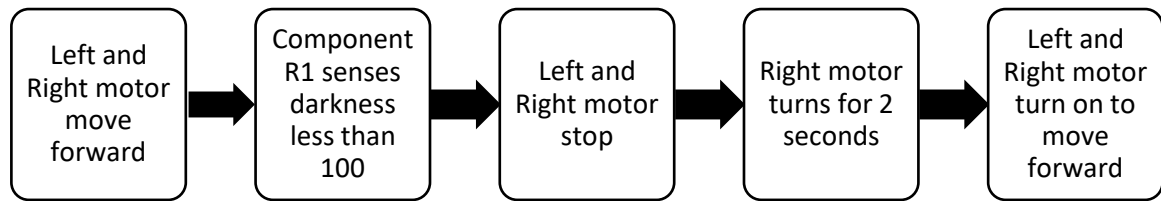
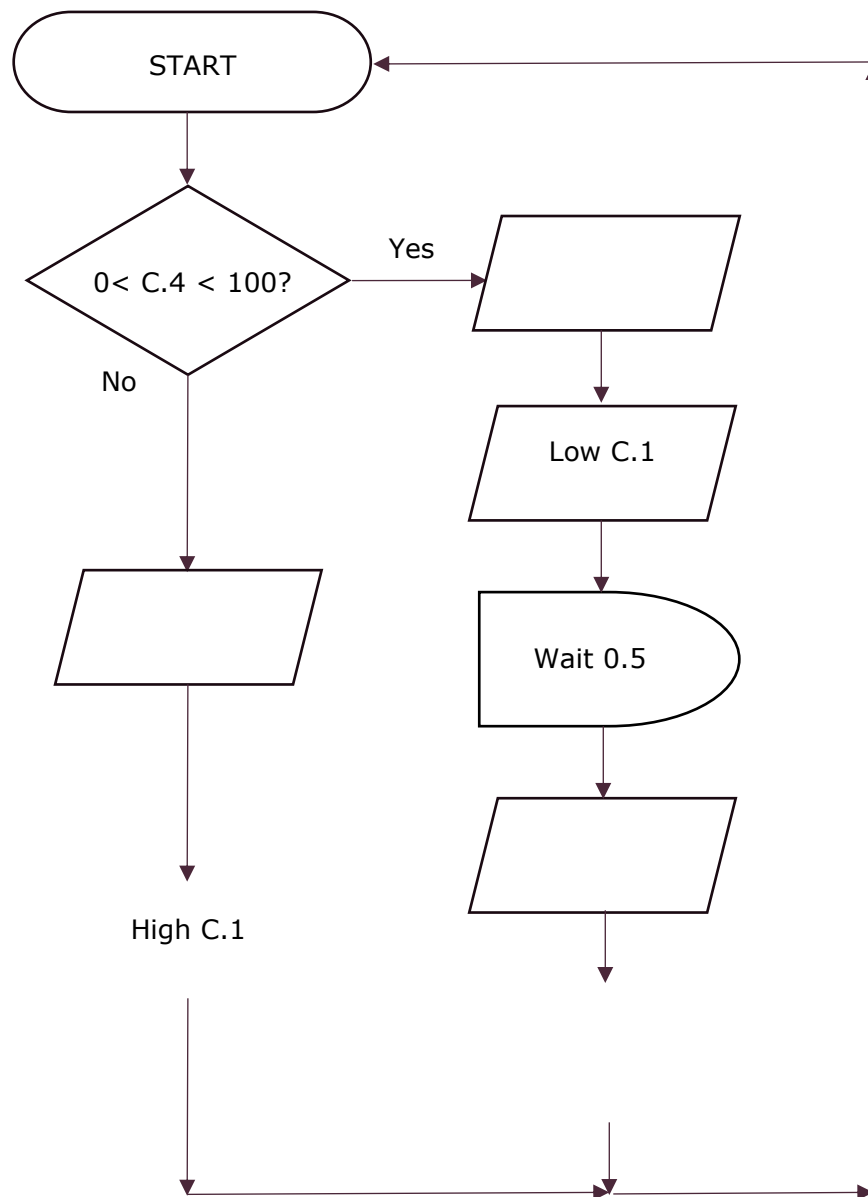

Figure 9
Figure 10
b. Figure 9 explains how the cleaning robot moves whenever it senses darkness.
Figure 10 shows an incomplete flowchart with the program that controls the cleaning robot according to the sequence presented in Figure 9. Complete Figure 10 by adding the missing symbols and commands.